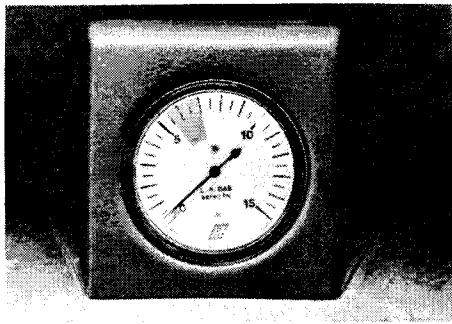

FIGURE 18 – MANOMETER GAUGE
3. Monitor the manometer gauge for a minimum of 30 minutes, there should be no drop in pressure (see Figure 18).